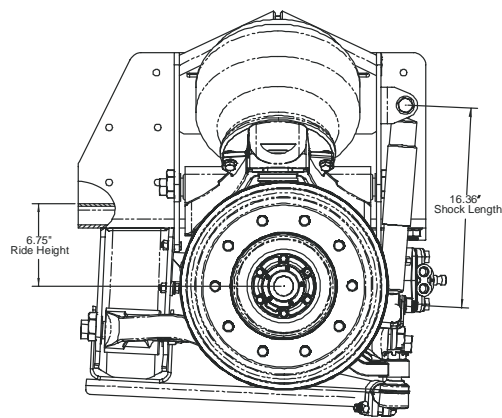

Figure 8 - Ride Height Measurement
4. The actuation arm of the height control valve should be horizontal at ride height (Figures 8). See section for adjusting to correct ride height.